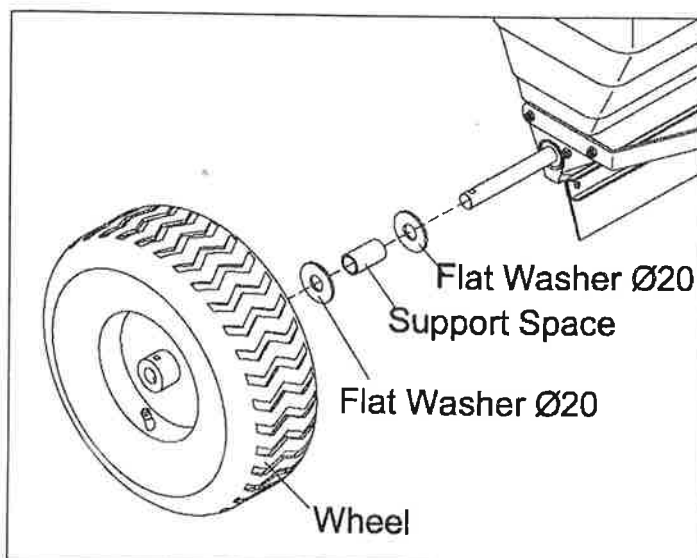

Figure 13
6. On the wheel axle, insert the Flat Washer Ø20, Support Space, Flat Washer Ø20, and Wheel by Sequence. (Note the valve on wheel should be in outside). See Figure 13.